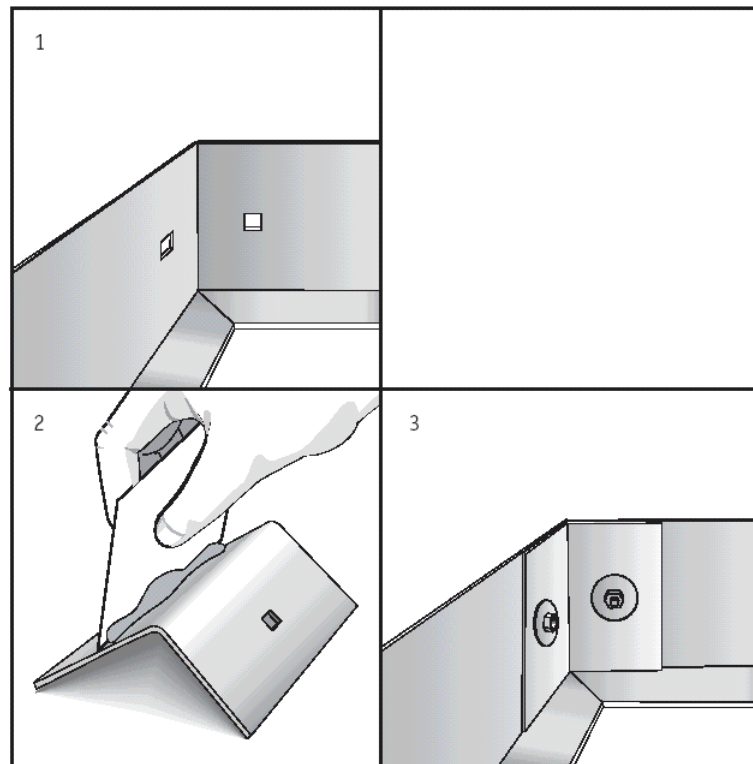

Figure 5.5 – Assembling Barrier Corners
- 5.9 Apply Adhesive to the mating surfaces of the Corner Plate, spread the Adhesive evenly over the surface using a 1/8 inch v-notch trowel and press the plate into place over the joint (Figure 5.5). Lightly bolt the Corner Plate to the Strips using a carriage bolt, flat washer and hex bolt arrangement.